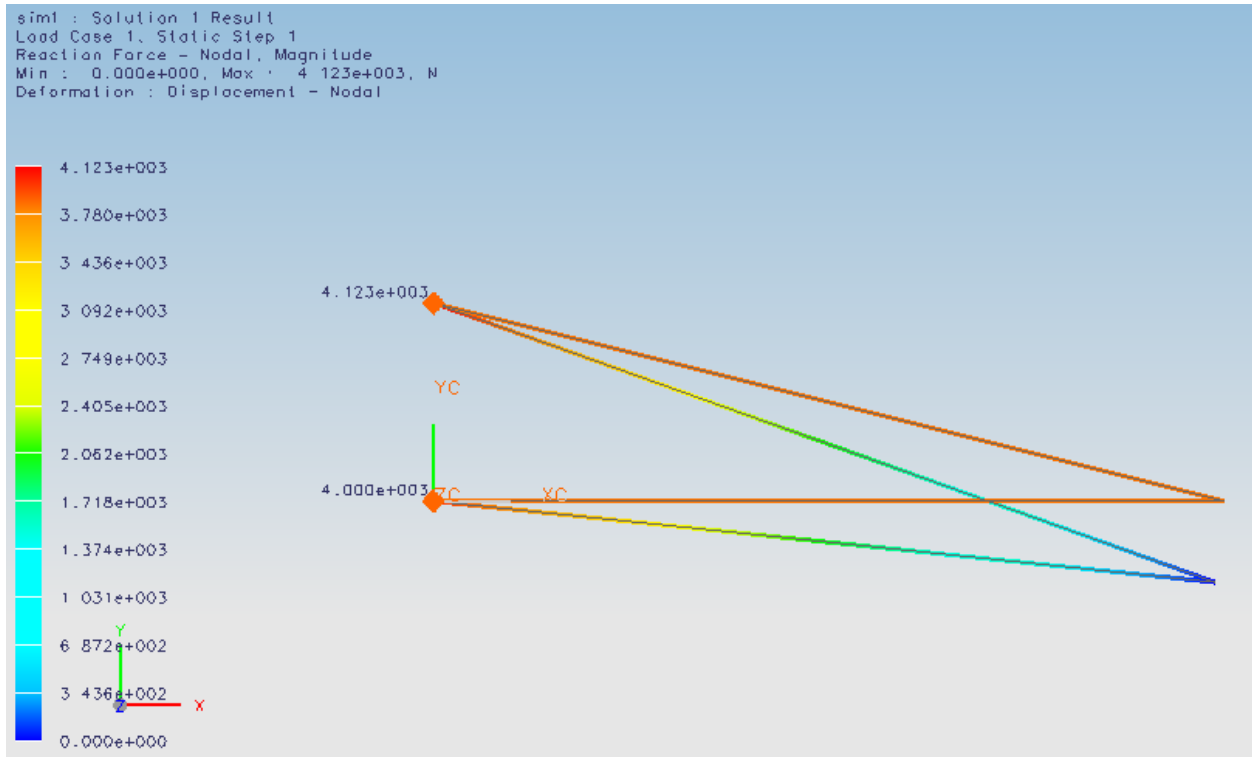

Figure 13. Reaction Forces from FEA
- c. Another possible check is to look at the reaction forces. Figure 13 shows the magnitudes of the reaction forces from the FEA. Note, however, that the software interpolates the reaction forces between the nodes of the element. This is not physically correct for this situation; however, we can get the force at the node using the “Identify Results” tool. Turn on the display of the “Post-Processing” tool bar and select . Moving your mouse over a node will make the software display the value at the node in the status bar. Clicking on the node will cause the value to be displayed at the node, as shown in Figure 13. Observe that the analytical and FEA reaction forces match very closely.